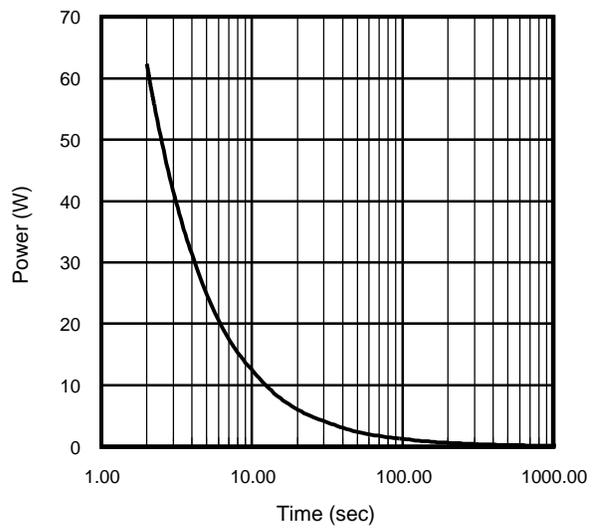

Fig 15. Typical Power Vs. Time
Notes on Repetitive Avalanche Curves , Figures 15, 16:
7. ΔT = Allowable rise in junction temperature, not to exceed T_{jmax} (assumed as 25°C in Figure 15, 16).
Notes on Repetitive Avalanche Curves , Figures 15, 16: (For further info, see AN-1005 at www.irf.com)